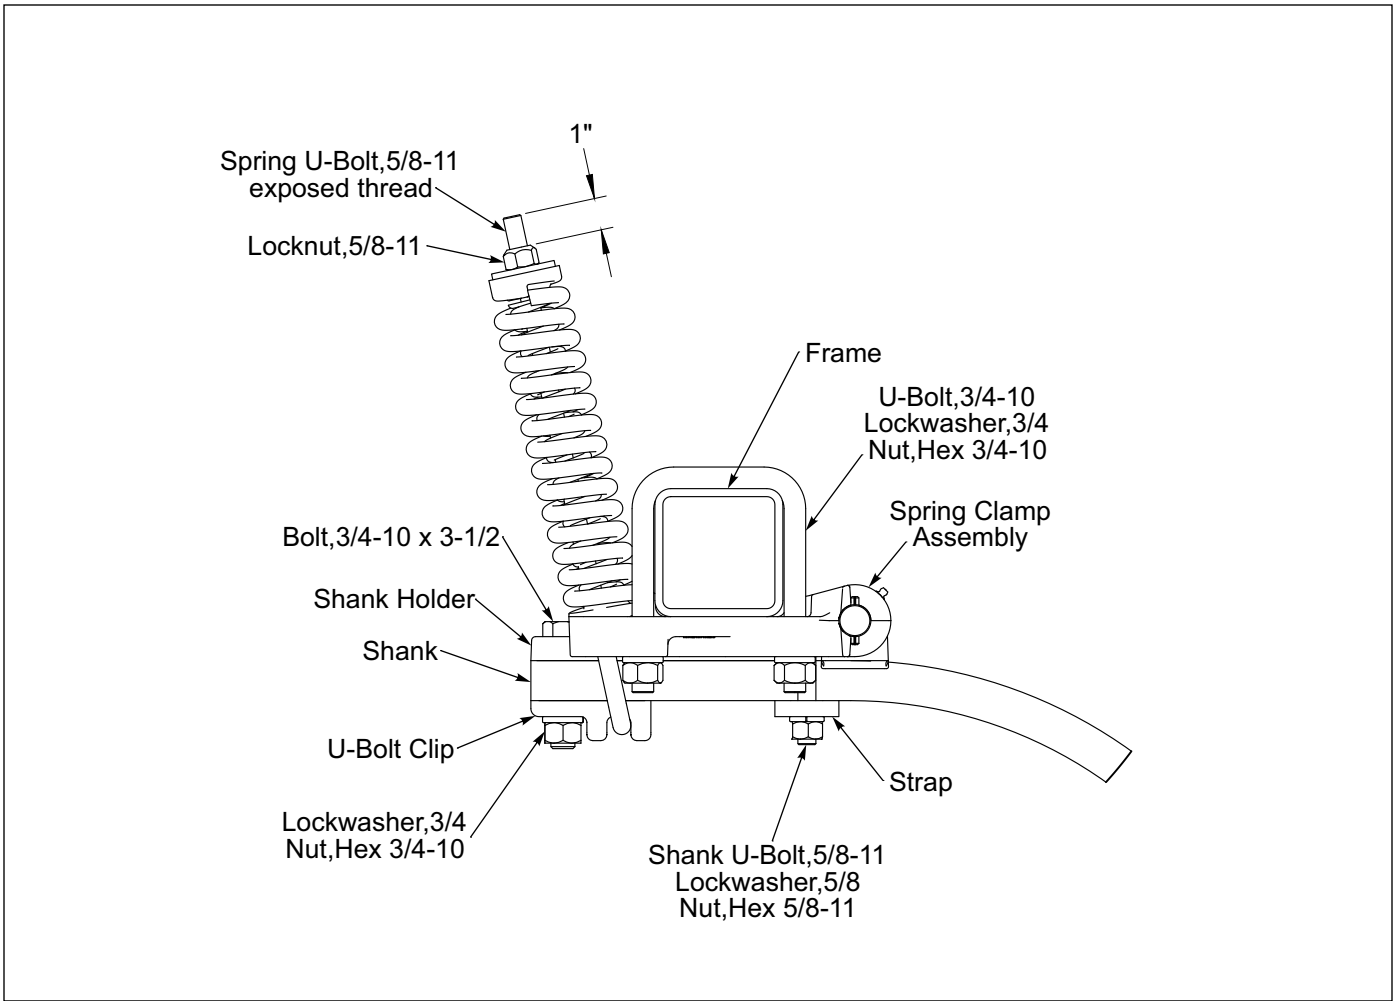

Figure 2-39: Shank Assembly, Side View
2. Remove 3/4-10 x 3-1/2 Bolt, Lockwasher and Hex Nut from the Spring Clamp Assembly. Slide Shank into the Spring Clamp Assembly between the Shank Holder and both the Strap and the U-Bolt Clip. It may be necessary to loosen the double nested springs to install the Shank. Re-insert the 3/4-10 x 3-1/2 Bolt through the Shank Holder, Shank and U-Bolt Clip and secure with Lockwasher and Hex Nut. Tighten Shank U-Bolt. **See Figure 2-39.**
3. Check the Spring Clamp Assembly Double Nested Spring pre-load. For normal operation, the Locknut on the end of the Spring U-Bolt should be tightened so that one inch of thread is exposed. **See Figure 2-39.**